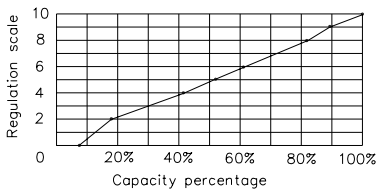

fig. 6
- **intermittent electronic regulation (fig. 6)**